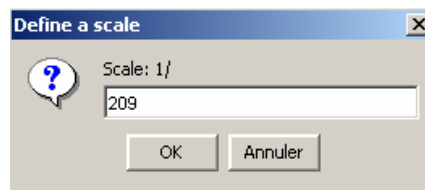

Figure 21: defining a scale
- Define scale: this option is available only in the "View" menu. It opens a dialogue box (Figure 21) that enables to define a given scale (the default value is the current scale of the opened project). When the dialogue box is closed, the drawing is adjusted to the scale that was typed in. Again, scrollbars are displayed if necessary.